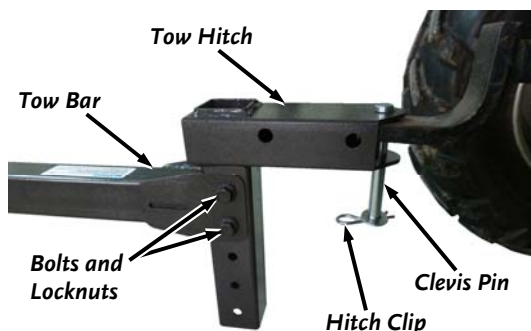

Figure 16
1. Position the Tow Hitch onto the Tow Vehicle Hitch and secure with the clevis Pin, Flat Washer and Hitch Clip (**Figure 16**).
1. Remove the two Bolts and Locknuts that secure the Hitch to the Tow Bar and position the Hitch at the desired setting to level the machine (**Figure 16**). Ensure the bottom of the Tracking Wheel Support is level with the ground and has a minimum clearance of 4-1/2".